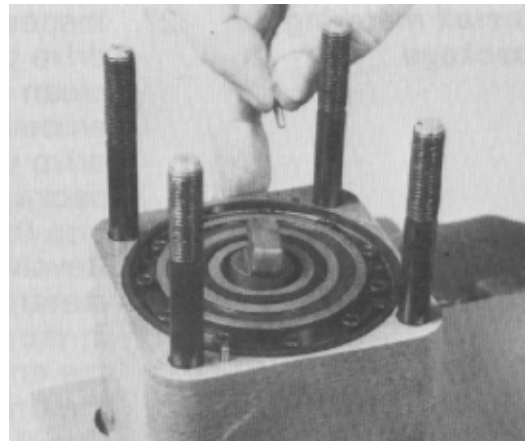

Figure 112
31. Put two alignment pins into the metering ring (Fig. 112).